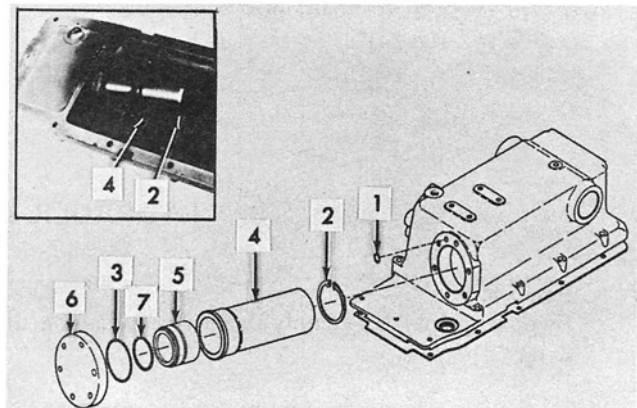

Figure 12
1. Check the piston and O-ring for wear or damage and replace if necessary, see Figure 12.
1. If the cylinder sleeve was removed, install the sleeve into the hydraulic lift cover and install the snap ring in the sleeve. Refer to Figure 12 during the assembly procedure.